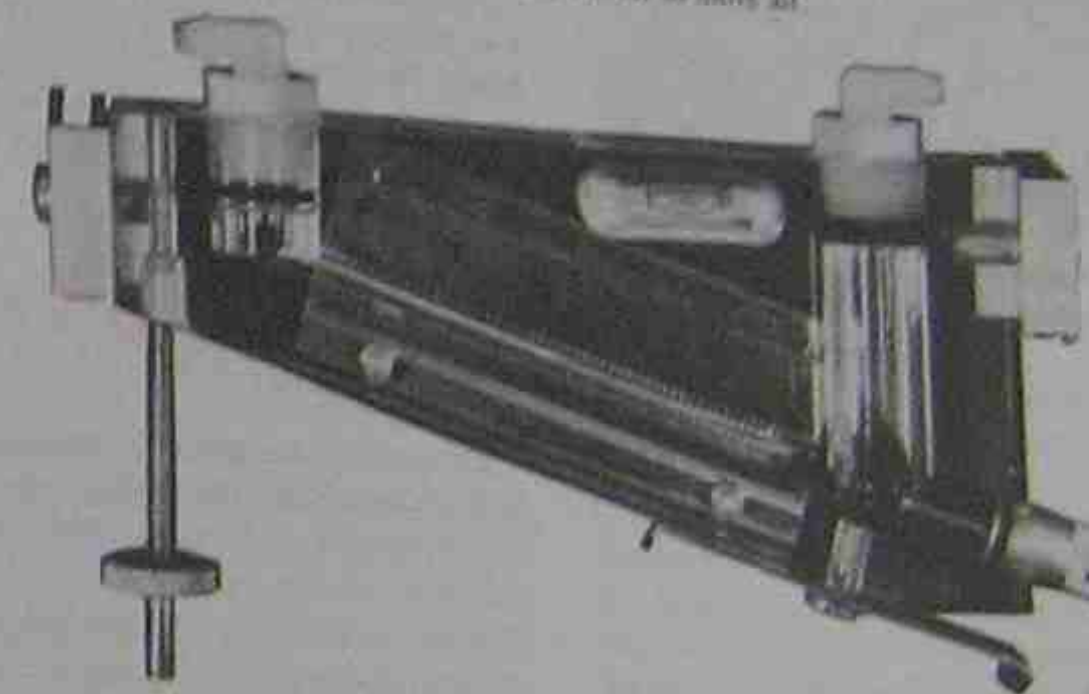
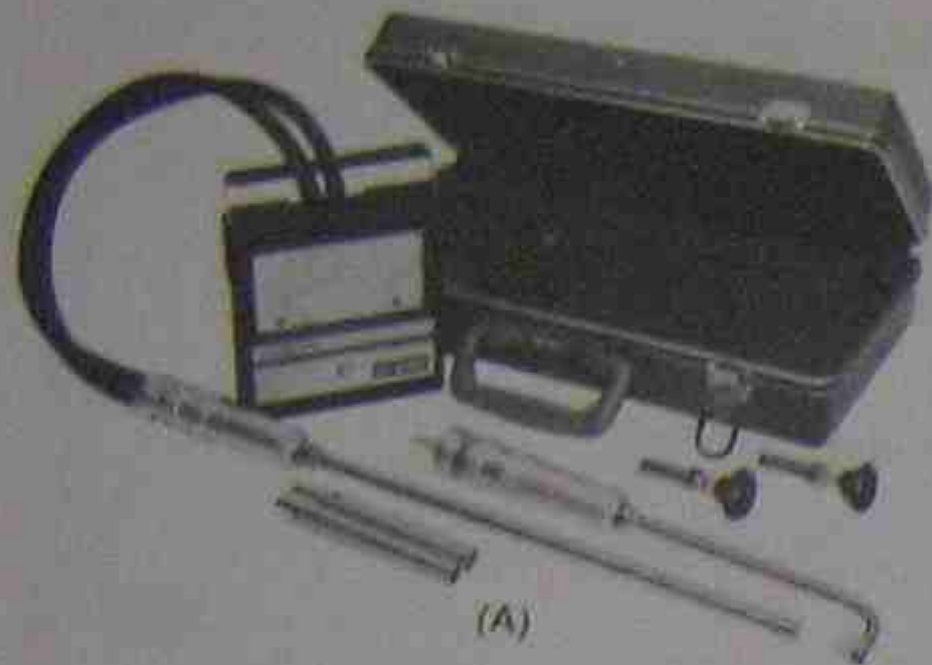

Figure 39-7. Water manometer is inclined to allow the scale to be extended for more graduations.
Figure 39-8. Other instruments used to measure air pressures. Courtesy (A) Alnor Instrument Company (B) Photo by Bill Johnson
*column* (in. W.C.). A pressure of 1 in. W.C. is the pressure necessary to raise a column of water 1 in. Air pressure in a duct system is measured with a *water manometer*, which uses colored water that rises up a tube. Figure 39-7 shows a water manometer that is inclined for more accuracy at very low pressures. Figure 39-8 shows some other instruments that may be used to measure very low air pressures; they are graduated in inches of water even though they may not contain water.